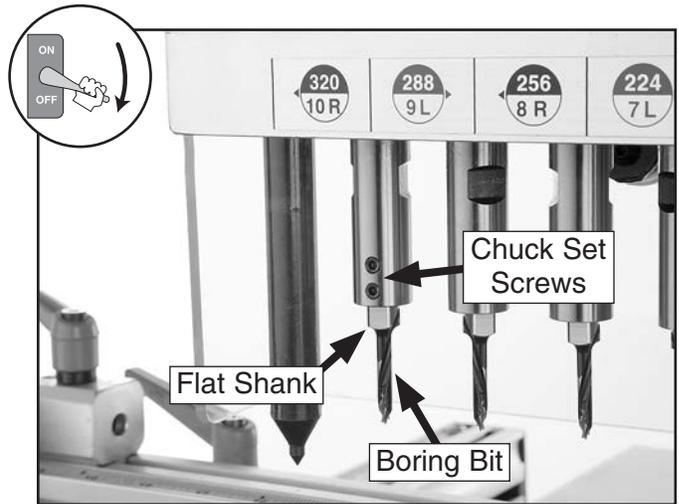

Figure 18. Boring bit installed.
4. Use a 2.5mm hex wrench to firmly tighten two M5-.8 x 5 set screws into the chuck (see **Figure 18**) and against the flat shank of the boring bit.